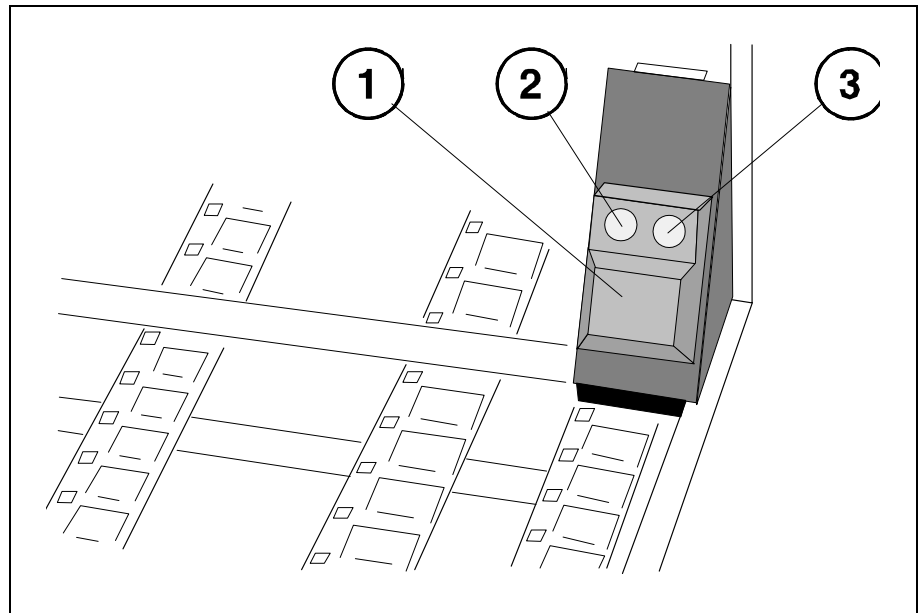

Figure 12-10. Release button and status LEDs
All TM Magazines are equipped with a release button ('1' in Figure 12-10) which has a green LED (2) and a yellow LED (3).